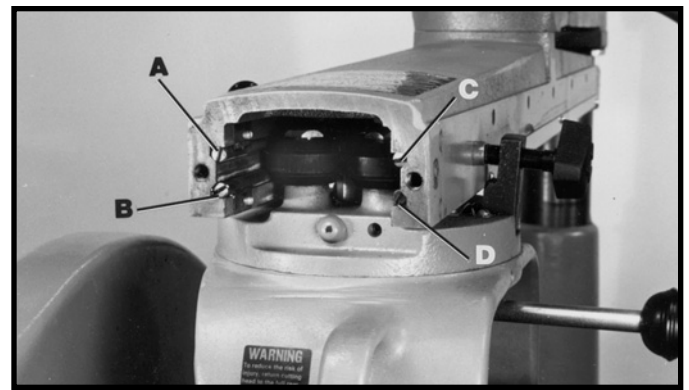
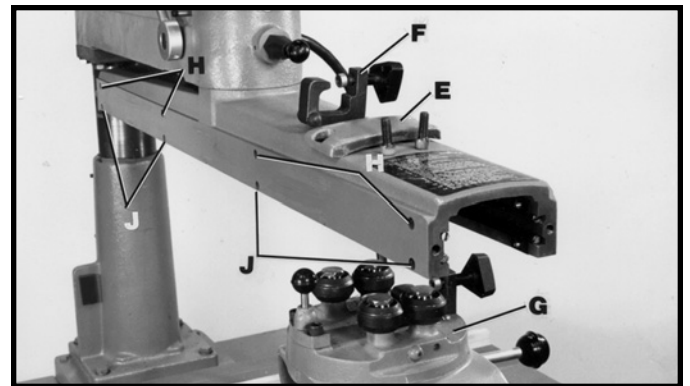

Fig. 34
Fig. 35
Each track rod (A, B, C, D) Fig. 34 can be adjusted individually to present a new bearing surface. Adjust the track rods one at a time as follows:
1. Remove end cap (E) Fig. 35, cross-cut stop (F) and cutterhead assembly (G), from the track-arm (Fig. 35).
2. Loosen series of top screws (H) Fig. 35 just enough to release holding action on the top left track rod (A) Fig. 34. Insert screwdriver into slotted end of track rod (A) Fig. 34, and turn slightly right or left. Retighten all top screws (H) Fig. 35.
3. Bottom left track rod (B) Fig. 34 is adjusted in the same manner by loosening series of bottom screws (J) Fig. 35.
4. Adjust the right side track rods (C & D) Fig. 34 in the same manner. **NOTE:** When adjusting bottom right track rod (D) the rip scale must first be removed.